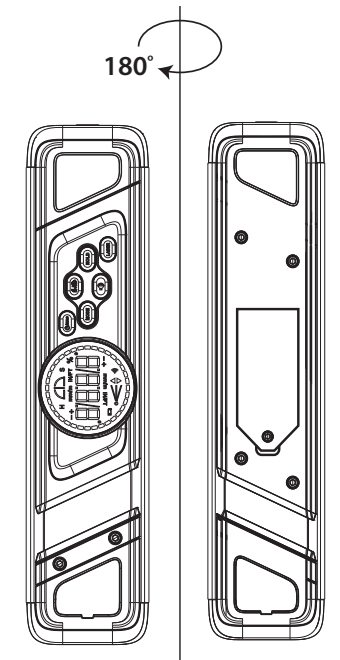

Figure 4
- Rotate the device 90°, and then press (3). **CAL3** starts flashing and then changes to **CAL4**.
- Without moving the device, rotate it 180°, and then press (3). **CAL4** will start flashing. When **CAL4** disappears from the display (8), the vertical calibration is complete (Fig. 4).